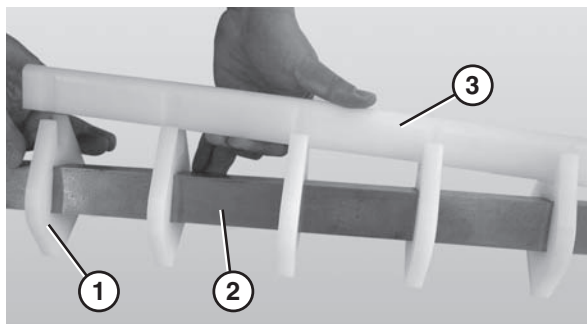

Figure 71
1. Slide the nose bar pucks (Figure 71, item 1) onto the nose bar drive post (Figure 71, item 2).
2. Attach the nose bar wear strip (**Figure 71, item 3**).